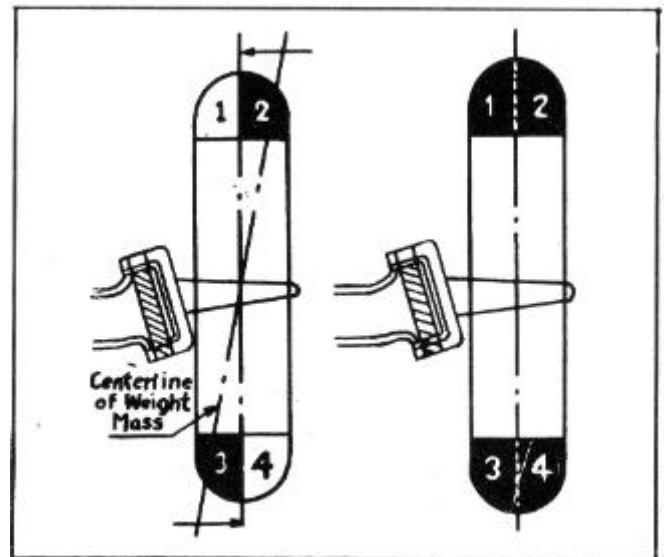

FIGURE 2
Dynamically--Figure 2
This wheel when started spinning, will cause a center line through the weights at (2) and (3) to attempt to get at right angles to the rotation axis, Figure 2, which exerts a force on the wheel to try to obtain a new center line and thus change the axis of rotation. The wheel in spinning, therefore, tries to equalize the weight at (2) and (3) by moving the center line first in one direction and then in another, causing the wheel to try to rock first in one
Weights must be added to (1) and (4), Figure 2 to equal the weight in sections (2) and (3), and in Figure 2 the weight is evenly distributed about both the axis of rotation and the center line of the wheel. This wheel is statically and dynamically balanced.